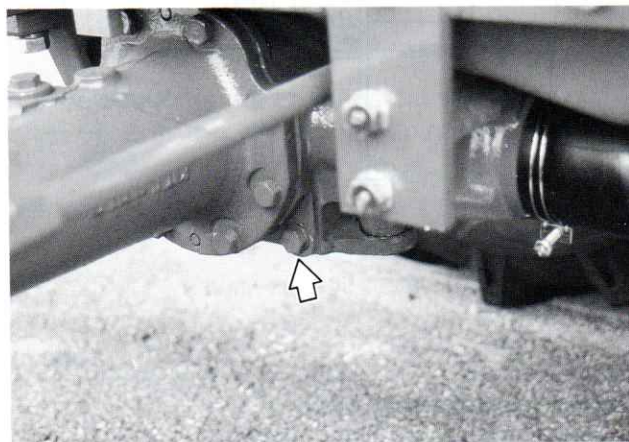
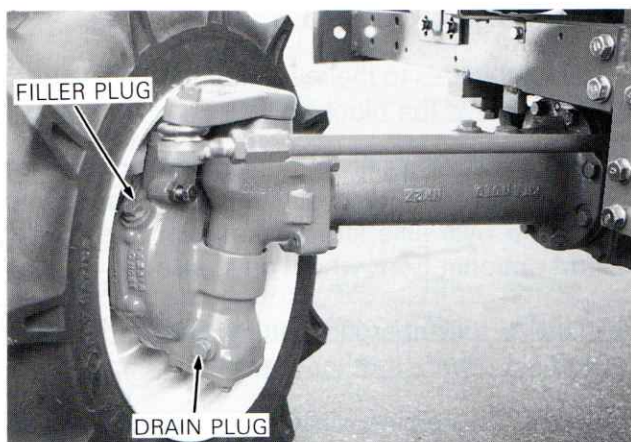

Figure 61 – Front Axle Differential Drain Plug
Figure 62 — Final Reduction Gear Case Filler and Drain Plug
1. With the oil at normal operating temperature, drain the oil by removing the front axle differential, Figure 61, and final reduction gear case drain plugs, Figure 62. Reinstall the plugs after the oil has drained. Discard the oil.
2. Remove the filler plugs at each final reduction gear case, Figure 62, and fill with new oil as specified on page 30, and install the filler plugs